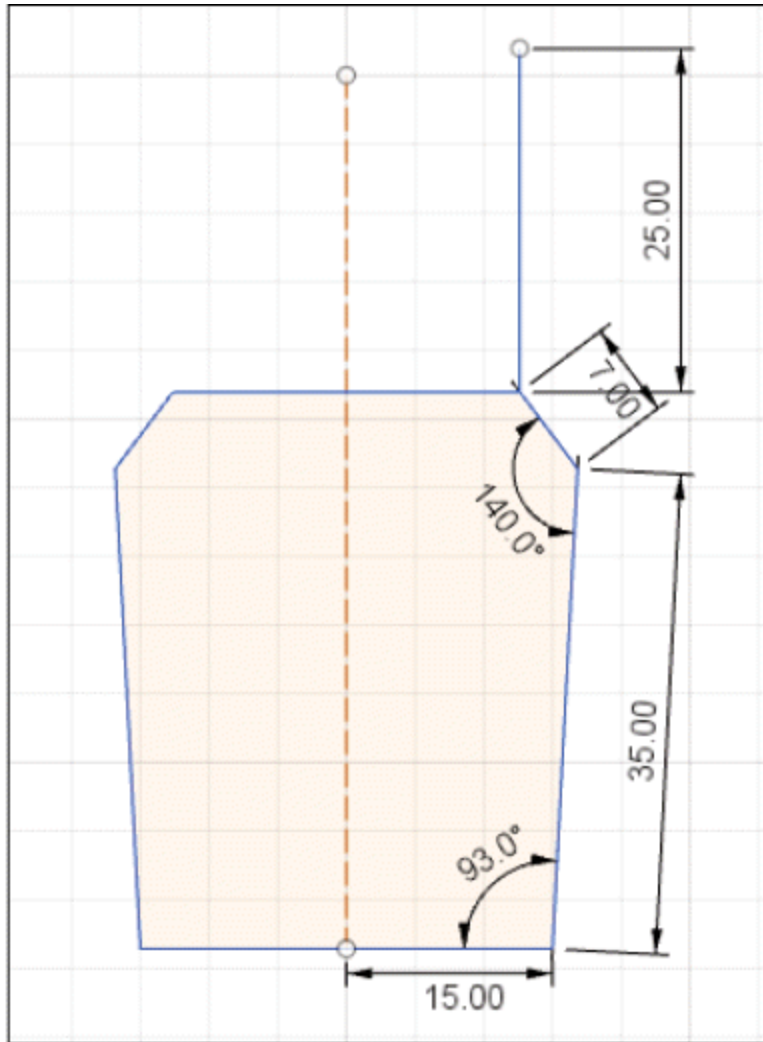

Figure-128. Creating line from right side of sketch
- Create a vertical line from one end of the sketch of length **25 mm** as shown in Figure-128.